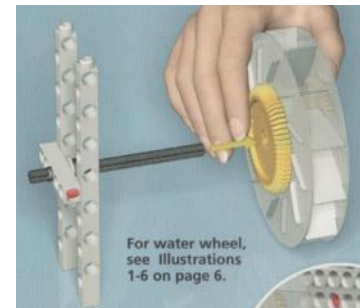

Figure 4: Water Wheel Assembly
**Use Figure 4 for steps 11-13.**